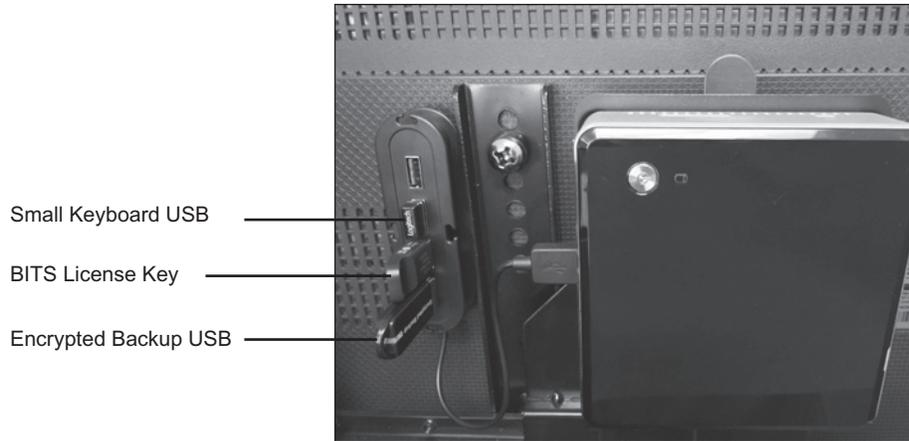

Figure 8: Connection Locations of BITS License Key, Encrypted Backup USB, and Small Keyboard USB
3. Plug the BITS License Key into the USB Hub. See Figure 8.
3. Plug the Encrypted Backup USB into the USB hub. See Figure 8.
2. Plug the small USB into the USB Hub. See Figure 8.